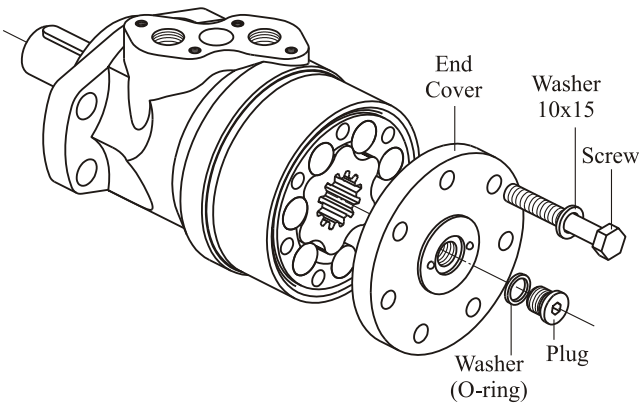

Fig.1
2. Unscrew screws using S17 socket spanner. Remove washers (see Figure 1).
20. Carefully place end cover on roll-gerotor set (see Fig.1).